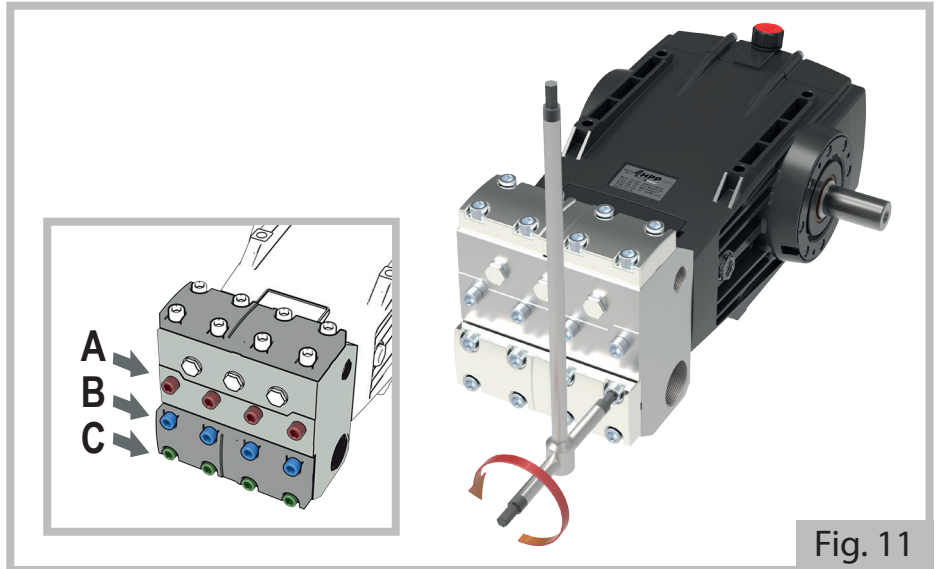

Fig. 11
- a) Using a 12 mm Allen key, loosen one turn the four screws **C** and unscrew completely the eight screws **A** and **B** (see detail in Fig. 11).